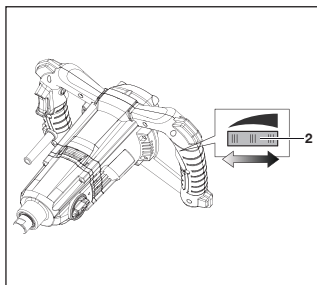

Fig. 2
- Set speed selection wheel (C) to low speed. (Fig. 2)